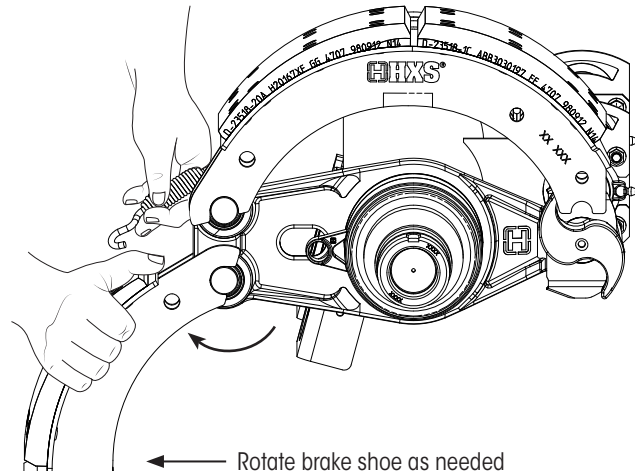

Figure 44: Attaching new brake retaining springs
6. **Put** the upper brake shoe in position (Figure 44), resting one end of the brake shoe on the anchor pin and the other end on the S-cam.
7. **Put** the lower brake shoe in position on the anchor pin and rotate the shoe rearward (Figure 44).
8. **Hook** both shoes together with two new brake retaining springs (one on each side as shown in Figure 44).